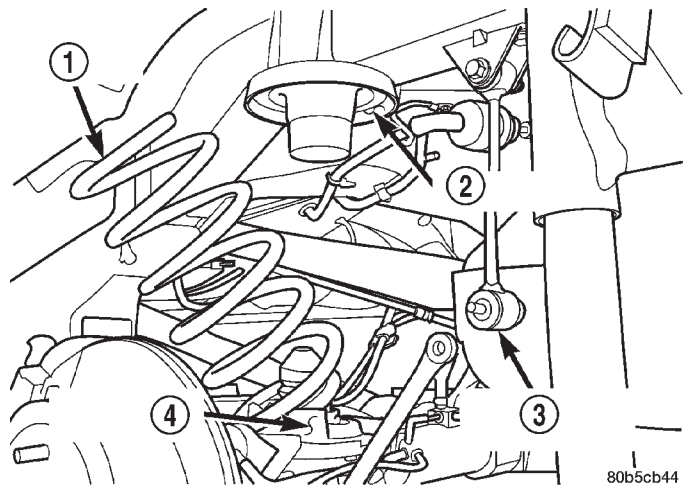

Fig. 3 Coil Spring
(1) Raise and support the vehicle. Position a hydraulic jack under the axle to support the axle.
(2) Remove the wheel and tire assemblies.
(3) Remove the stabilizer bar link from the stabilizer bar (Fig. 3).
(4) Remove the shock absorber lower bolt from the axle bracket.
(5) Lower the hydraulic jack and tilt the axle and remove the coil spring (Fig. 3).
(6) Remove and inspect the upper and lower spring isolators (Fig. 3).